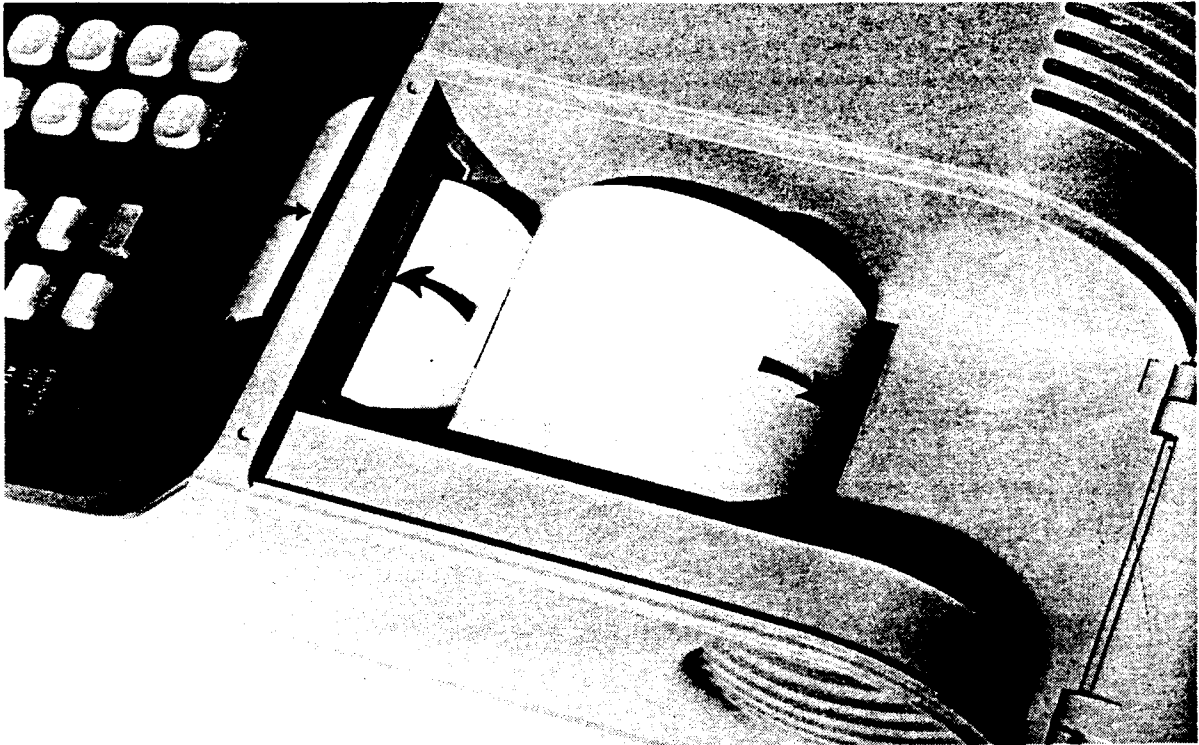

Figure 1-1. Loading Printer Paper
- Position the spindle in the guides so that the paper will unwind from the bottom of the roll (see Figure 1-1).